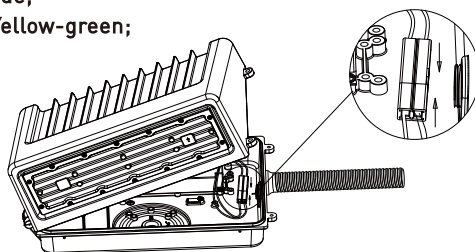

Fig. 2-4A
4. Connect the quick connect terminal, then screw the fixture with bottom plate (Fig. 2-4A&B).